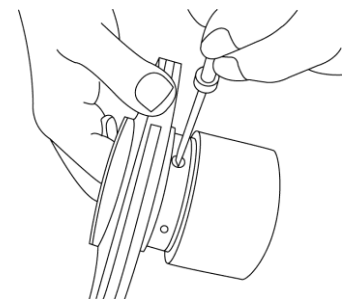

Figure 12
- To disassemble impeller and magnet capsule assembly, turn the locking pins counter clockwise 90 degrees using a slotted screw driver and then push it towards the inside of the impeller. [Fig. 12] If it is hard to push it out, slightly tap the end of the screwdriver handle.